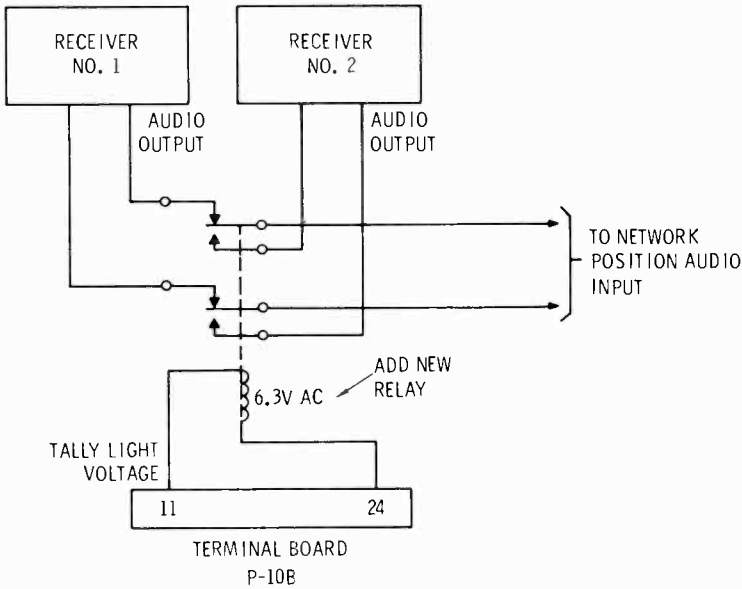

Fig. B-4. TC-4A modifications to operate two off-air receivers' audio into one switch position of the console.
6. Off-Air Audio Circuits (Fig. B-4)